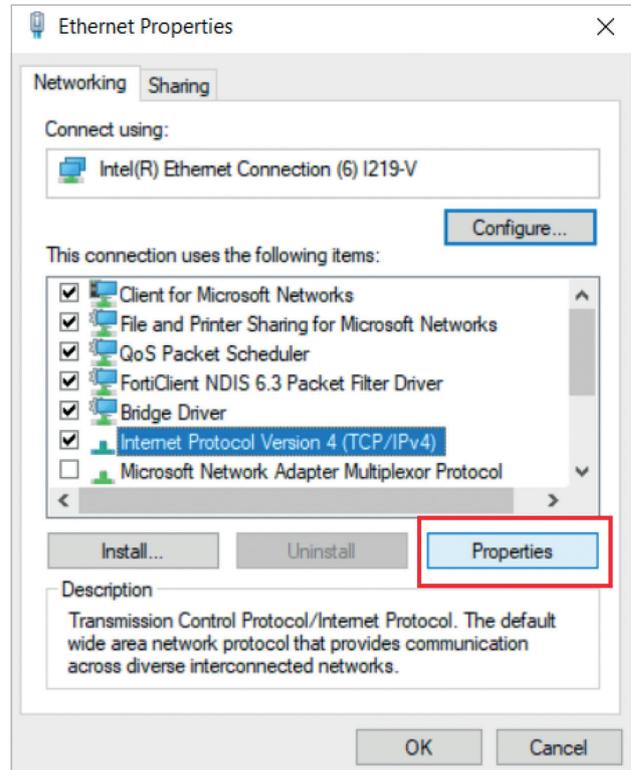

Figure 9. Ticking the **Internet Protocol Version 4 (TCP/IPv4)** checkbox.
5. The **Ethernet Properties** window appears. Select **Internet Protocol version 4 (TCP/IPv4)** and tick the corresponding check box. Click **Properties** (Figure 9).